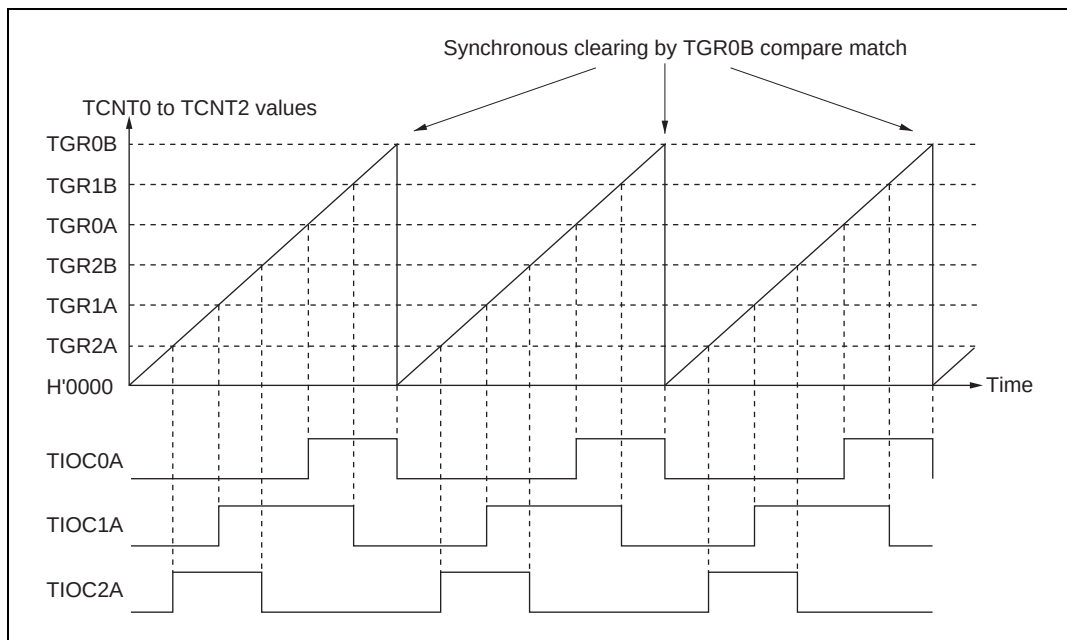

**Figure 9.15 Example of Synchronous Operation**
**Example of Synchronous Operation:** Figure 9.15 shows an example of synchronous operation.